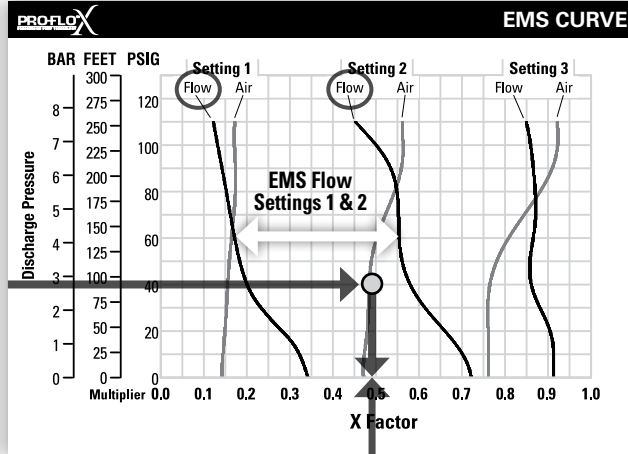

Figure 5
Step 4: Determine EMS setting from the flow X Factor. Plot the point representing the flow X Factor (0.49) and the application discharge pressure 2.8 bar (40 psig) on the EMS curve. This is done by following the horizontal 2.8 bar (40 psig) discharge pressure line until it crosses the vertical 0.49 X Factor line. Typically, this point lies between two flow EMS setting curves (in this case, the point lies between the flow curves for EMS setting 1 and 2). Observe the location of the point relative to the two curves it lies between and approximate the EMS setting (Figure 5). For more precise results you can mathematically interpolate between the two curves to determine the optimal EMS setting.